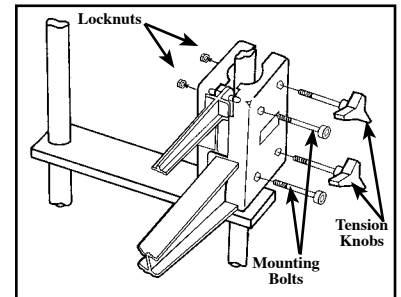

Figure 2
2. Begin with the right side of the ladder. Open the two halves, being careful not to lose the small spring on the top bar rod, of the Rack and place around the right vertical ladder tube. Thread two 1/4" (6.35 mm) hex screws into the front of the Rack body followed by two knobs in the rear (see figure 2). Knobs should always face outward for easy access.